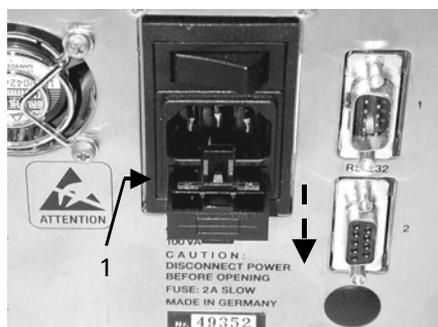

FIGURE 4-21. The Fuse Compartment
- a) Pull out the fuse holder (item 1, FIGURE 4-21).